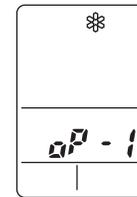

Fig. 59b
- d) ✻ appears and “oP-1” blinking in the remote controller clock display area. (Fig. 59b)